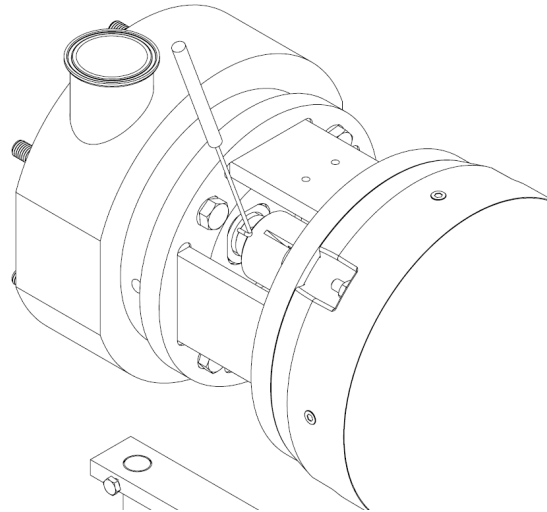

Figure 6
8. Push the stationary seal out from the back of the housing using an O-ring pick or your fingers or both. Pushing on opposite sides of the shaft with constant light pressure is the best method. Make sure to push outside of the rear seal face. See Figure 6.